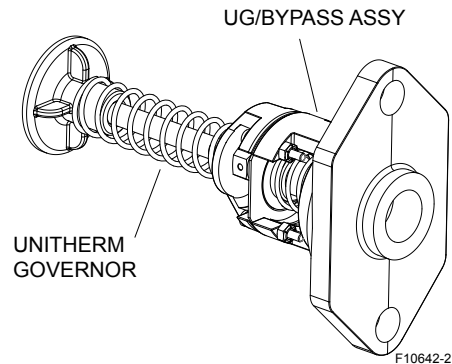

Figure 50. Unitherm Governor/Bypass Valve Assy
3. Remove UG/Bypass Valve Assy located on the right side of the header. See Figure 50.